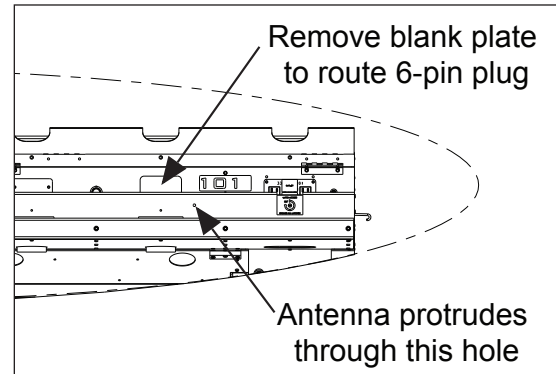

Figure 16: Radio Receiver Mounting, Rear View
1. Position the radio receiver unit so the antenna connector can extend through the hole in the front of the cable tray as shown in **Figure 16**.